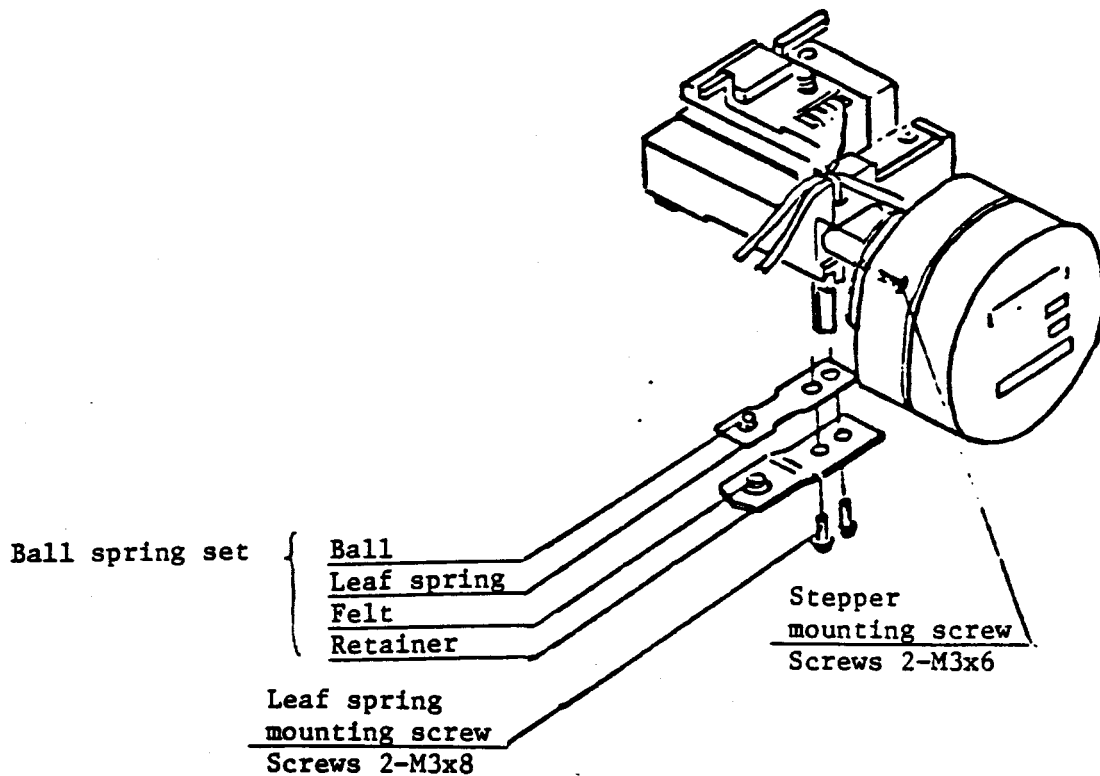
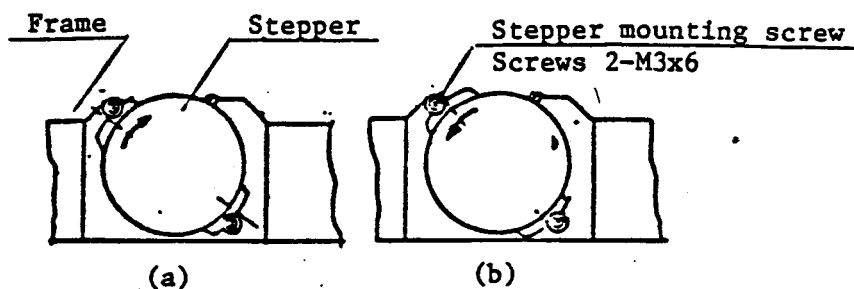

Fig. 4.14.2
Fig. 4.15.2
6. If TR00 signal does not go low, move one step inward and turn the stepper clockwise until the positioning signal appears when the relative locations of stepper flange and stepper mounting screws are as in figure 4.15.2 (a). Move one step outward and turn the stepper counterclockwise until the positioning signal appears when as in figure 4.14.2 (b).